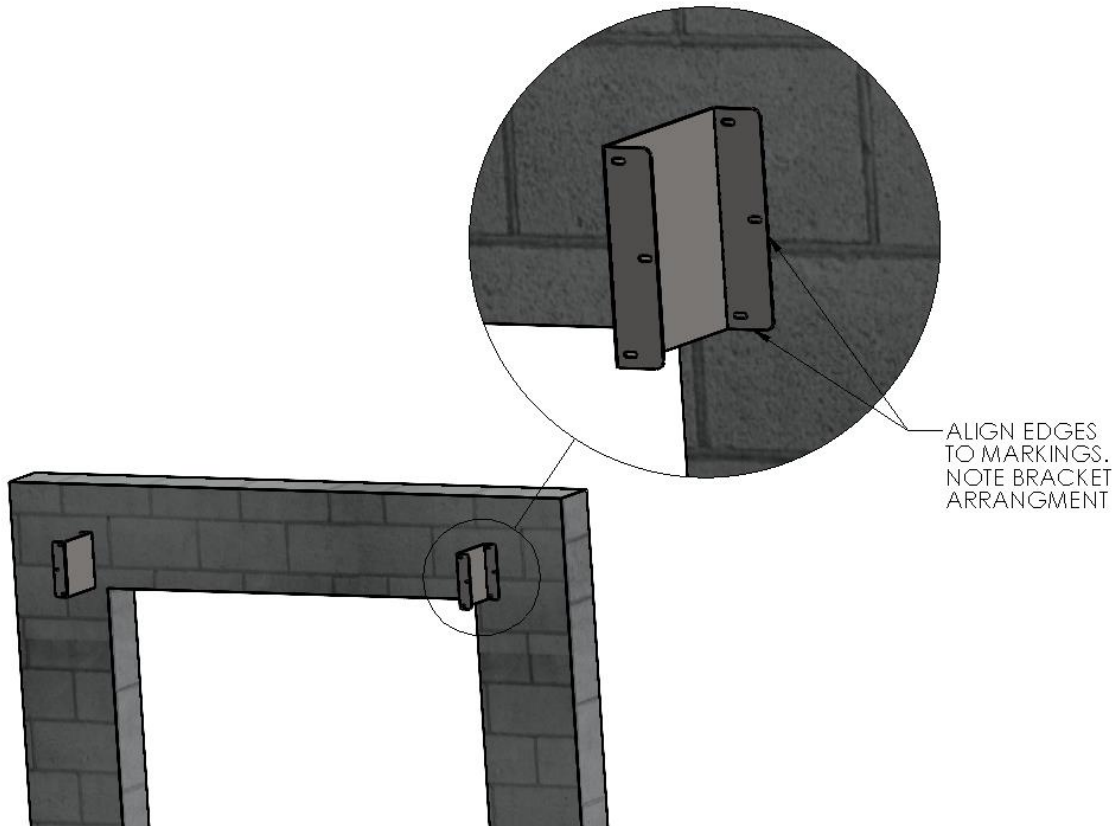

Figure 8 LOCATE/INSTALL HEADER OFFSET MOUNTING BRACKET
1. Hold Header Projection Mount Brackets at the wall markings. Orient it to fit between, and above, your markings on the wall. That is, with the flange facing outward, put the bottom edge on the height line, and the outer edge on your vertical overall width line. Trace the insides of its oval mounting slots onto the wall mount surface. (Figure 8 LOCATE/INSTALL HEADER OFFSET MOUNTING BRACKET)
2. Predrill through the centers of the traced locations for the mounting hardware, three (3) pilot holes on each side.
3. Using adequate mounting screws or bolts (depending on your building/surface material) attach the header offset brackets to each side of the opening. (Figure 8 LOCATE/INSTALL HEADER OFFSET MOUNTING BRACKET)